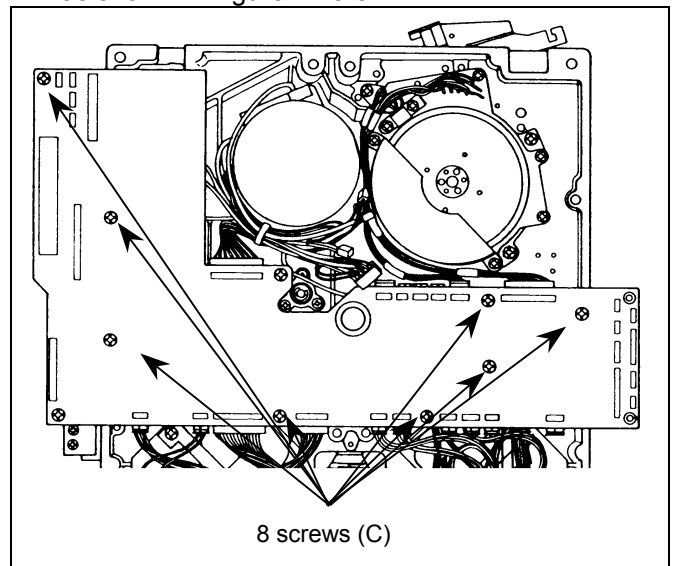

Figure 7-13-4 Mech. Intermediate P.C. Board Removal
5. Unscrew 8 screws (C) and remove mechanical intermediate P.C.Board as shown in figure 7-13-4.